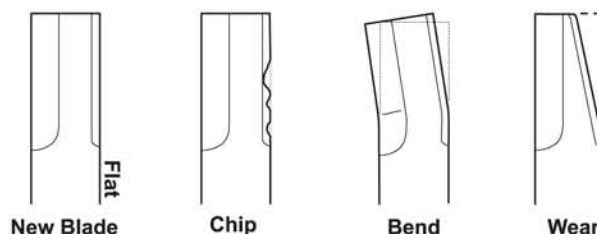
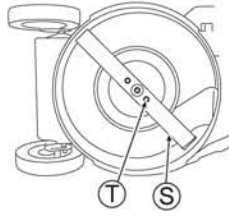

Fig. 31
Fig. 32
1. Confirm that there is no chip, bend, or wear with Blade (S). (See Fig. 31)
2. If Blade (S) or its mounting bolts (T) are "worn", "broken" or "deformed", exchange with new one(s) specified by us.
3. Confirm that Blade mounting bolts (T) are tightened by the specified torque. (See Fig. 32)
2. Fully tighten Blade mounting bolts (T) with hand.
4. Confirm that Blade mounting bolts (T) are tightened by the specified torque. (See Fig. 32)